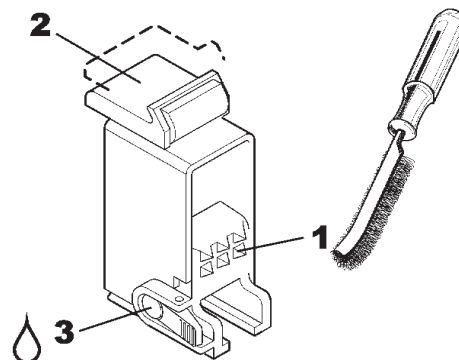

Fig. 6.0-2
**C.** Weekly clean the teeth of the jaws (1 Fig. 6.0-2) with a wire brush, check the nylon clamping jaw insert (2) and replace if worn.